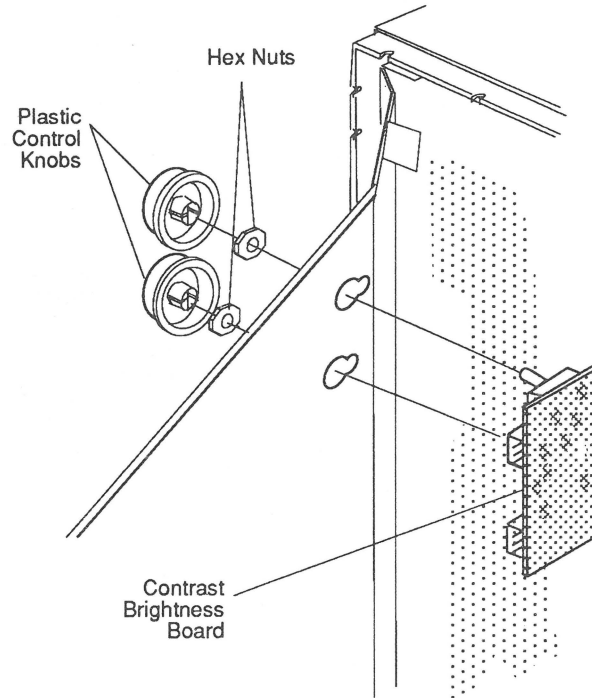

FIGURE 9
5. Pull off the two plastic control knobs (**Figure 9**). Keep the knobs to install them on the replacement board.
6. Using an adjustable wrench, loosen and remove the two hex nuts from the two adjustment knobs, and remove the contrast brightness board (**Figure 9**).
1. Replace the contrast brightness board (**Figure 9**) on the chassis, and install the two hex nuts. Tighten the nuts with an adjustable wrench.
2. Replace the two control knobs (**Figure 9**).